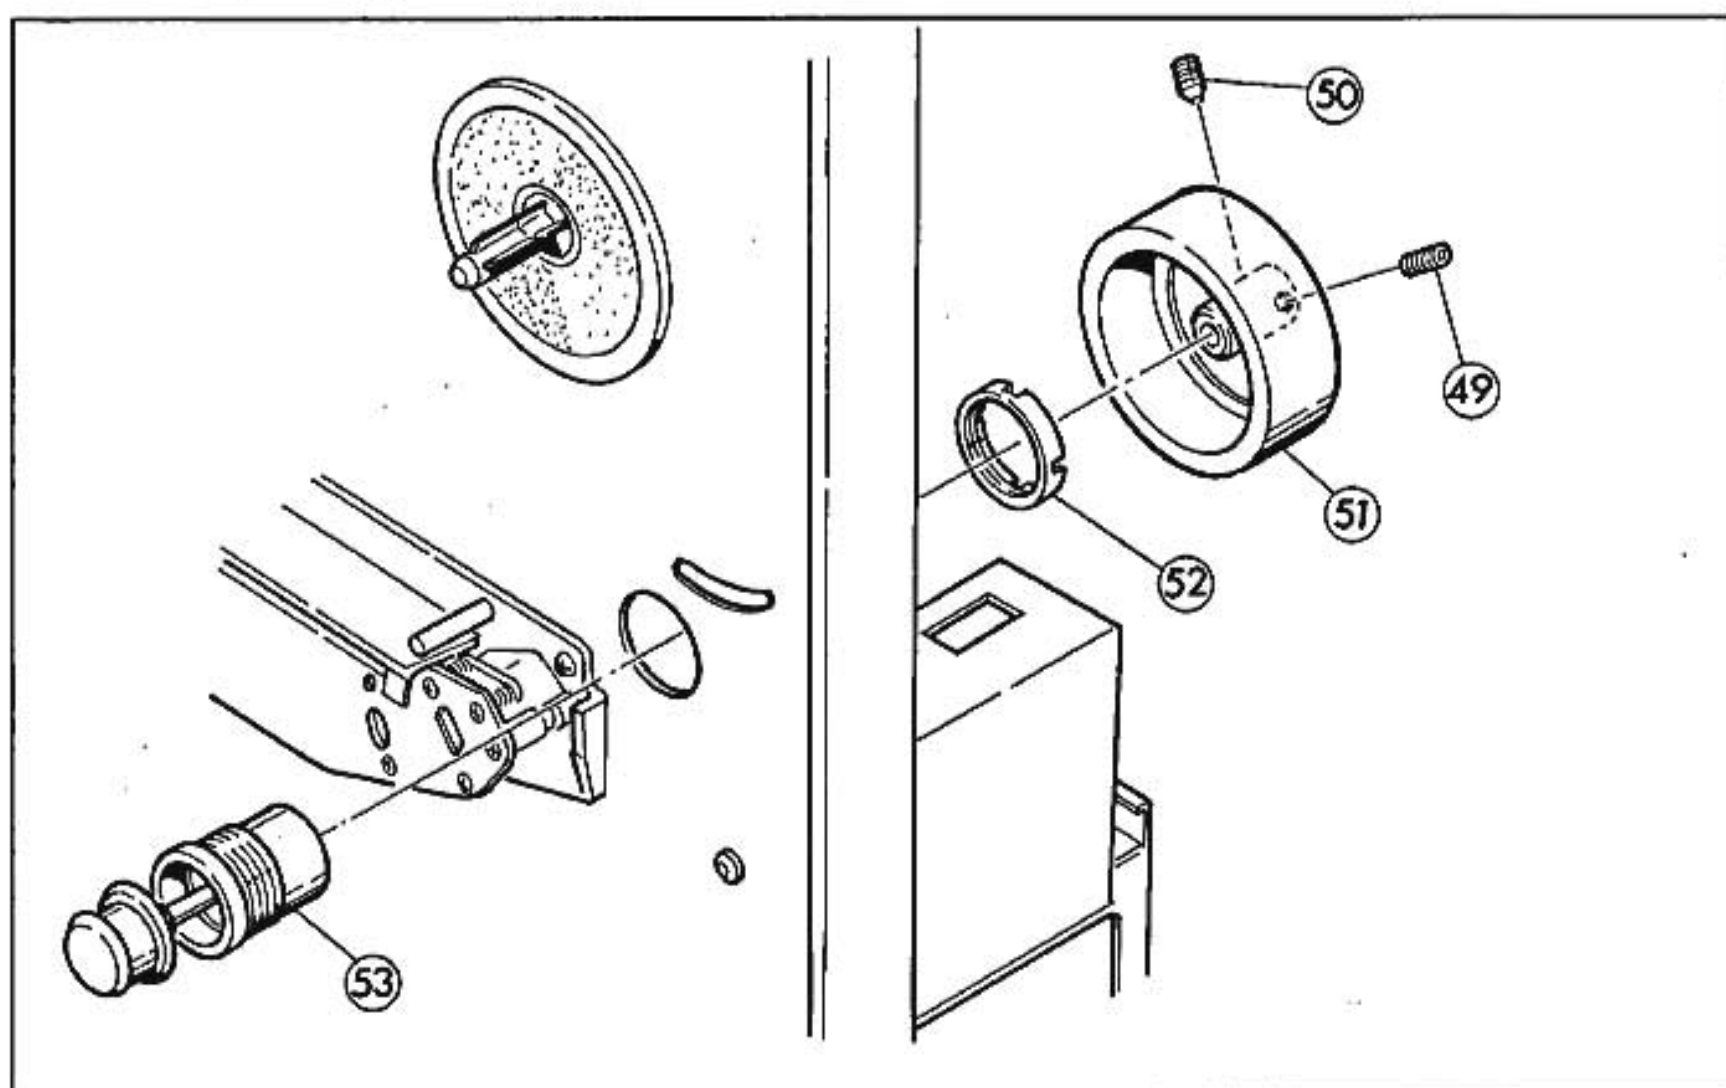

Fig. 10-16
1. Disassembly (See Fig. 10-16)
2. Assembly (See Fig. 10-16)